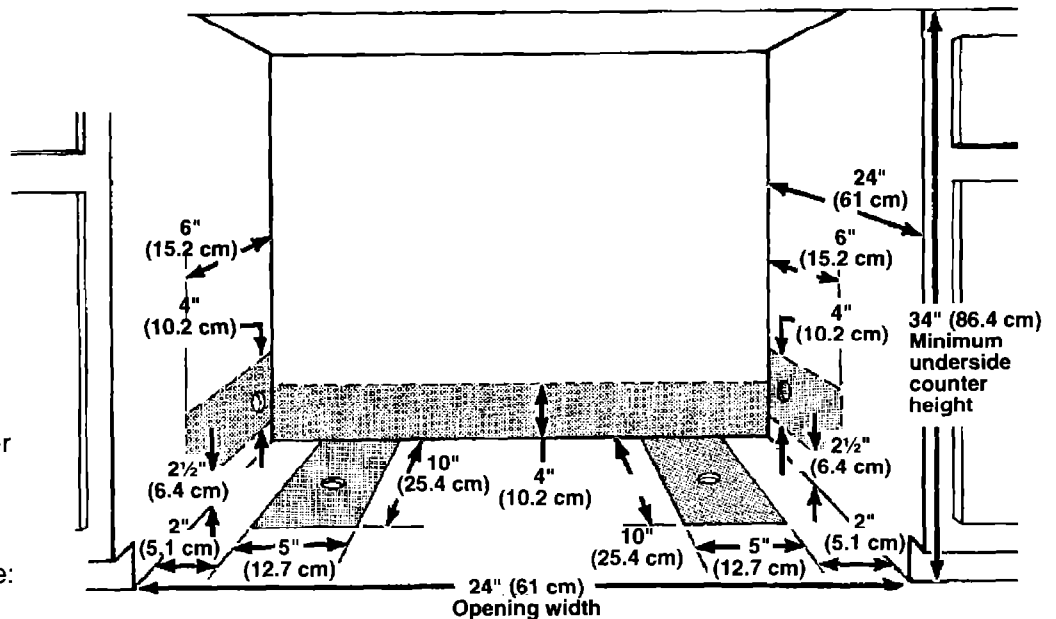

Figure 1
1. Have a 3-prong, grounding-type, wall receptacle available or installed by a qualified electrician on the rear or side wall of a cabinet next to the dishwasher opening. (See Figure 1, Page 2.)